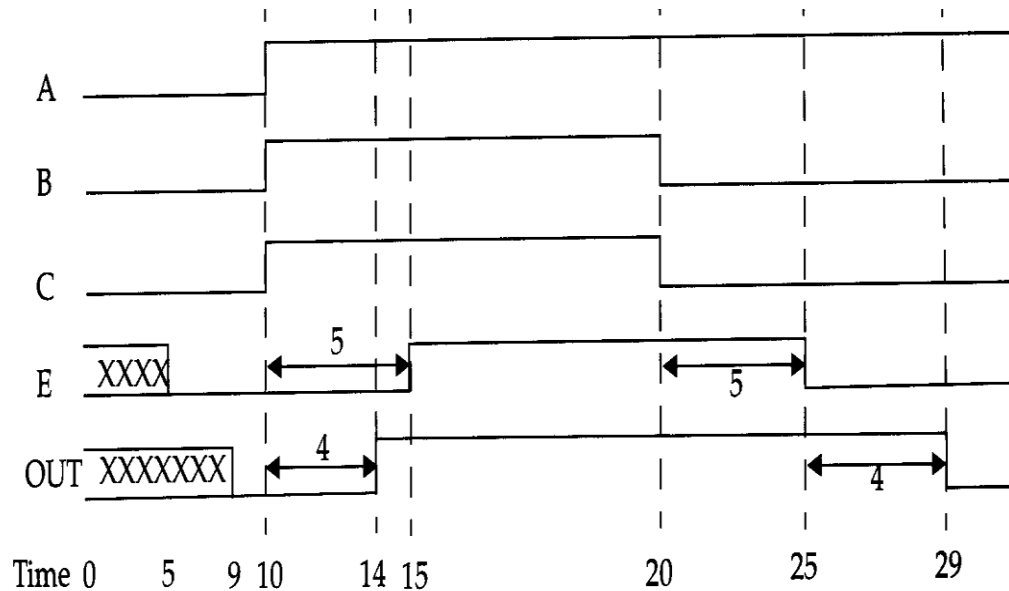

Fig.3.10: Simulation waveforms with delay
- Simulation waveform for the above design is shown in fig.3.10. The outputs E and OUT are initially unknown.